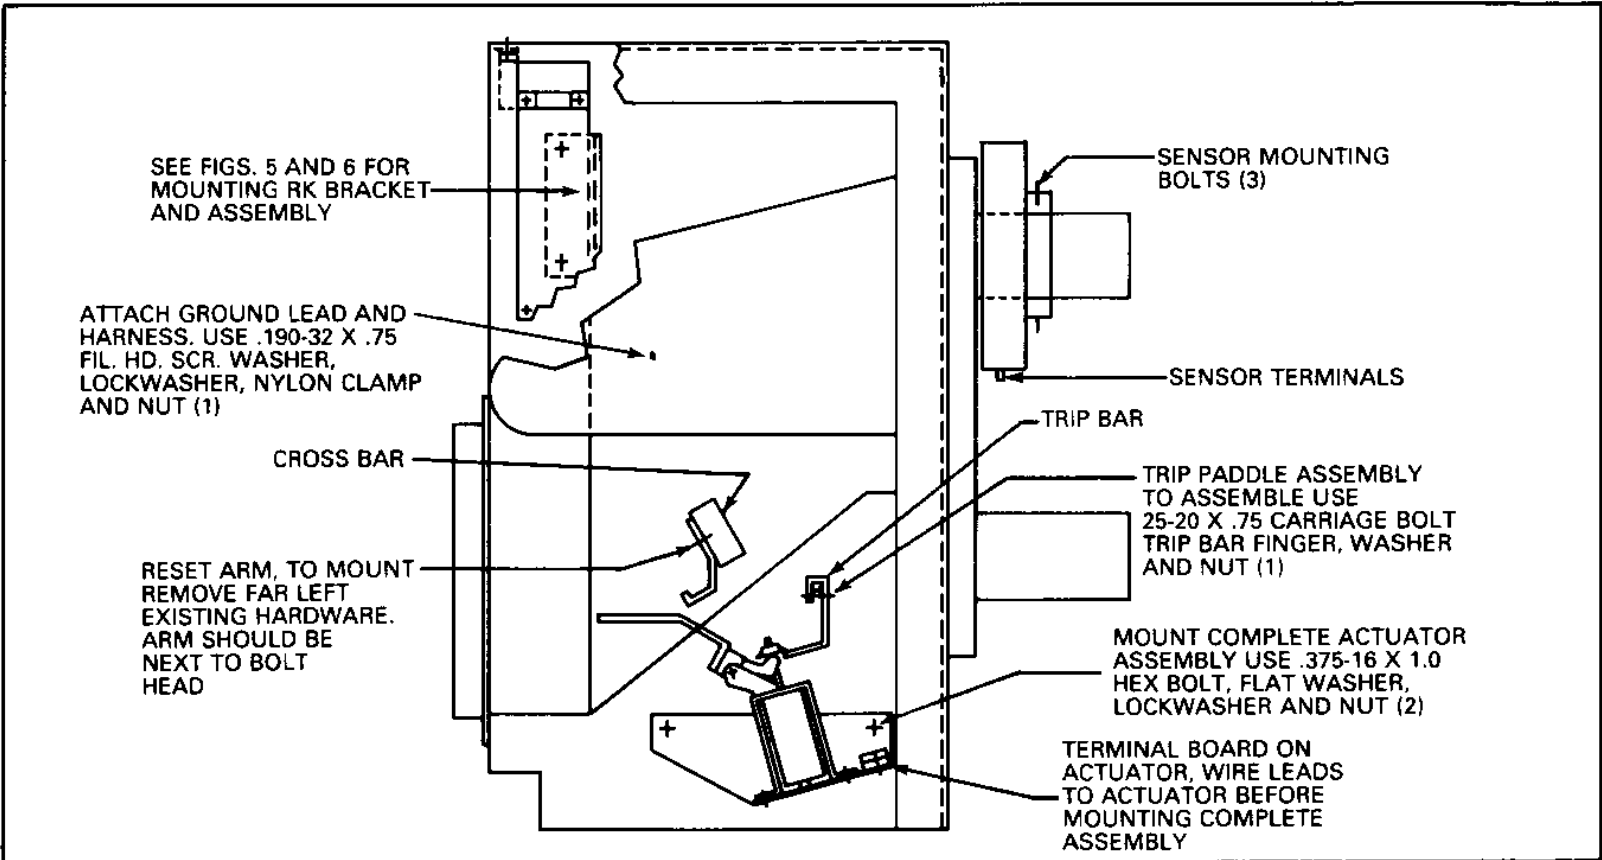

Fig. 8 Left Inside View of Breaker Looking Through from Right Side
- 5. Directly downward about five (5) inches from the retainer bar and to the right you will locate a 3/16" hole on the side frame. Attach both the ground lead and the harness at this point using .190-32 x .75 fil. head screw, nylon clamp, washer and nut. This now grounds the sensor star point. Fig. 8.
- 9. Mount the sensors on the studs. See Figs. 8 and 10.
- 1. Viewing the breaker from the left side, position and assemble trip paddle on breaker trip bar using .25-20 x .75 carriage bolt, trip bar finger, washer and nut. Do not tighten this assembly. See Figs. 8 and 9.